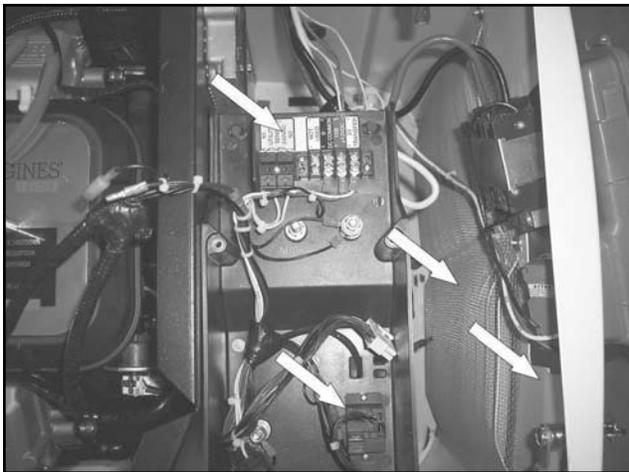

Figure 6.
5. Remove Control Wires: Remove Wires #N1,#N2, #0, #15B, #23, GFCI Outlet, and unit status lights from the control box. See Figure 6.